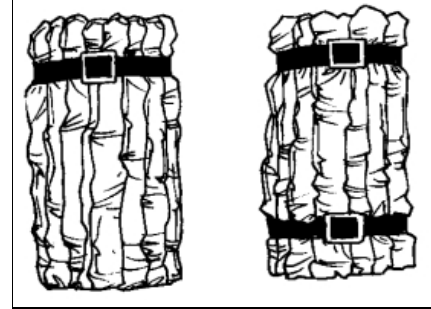

Figure 3-3 - End Section Secured with Two Cinch Straps
6. Compress and secure with a second cinch belt approximately 1.5 feet from the exterior keepers as shown in Figure 3-3.